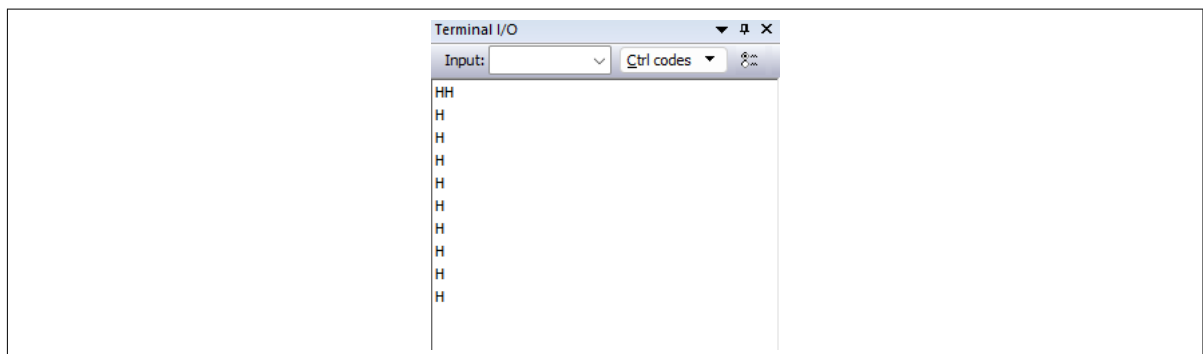

Figure 17 IAR terminal I/O window showing printf output
5. You should see the user LED toggling every second. The Terminal I/O window displays logs as shown in Figure 17